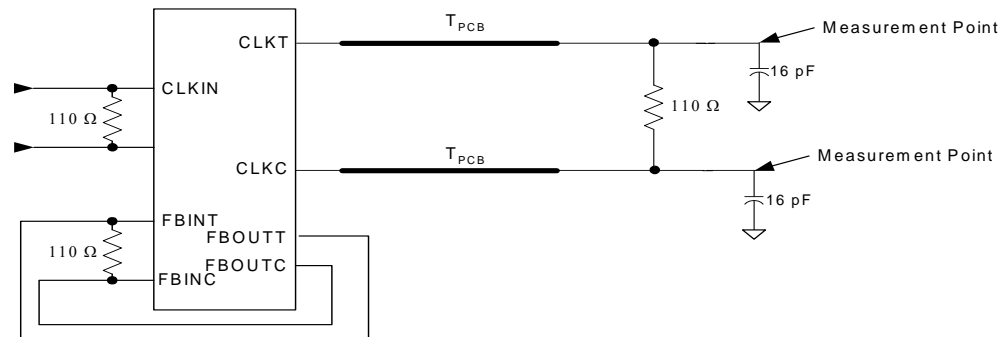

Figure 7. Differential Signal Using Direct Termination Resistor
7. For load conditions see *Figure 7*.
8. The value of  $V_{OC}$  is expected to be  $|V_{TR} + V_{CP}|/2$ . In case of each clock directly terminated by a 120 $\Omega$  resistor. See *Figure 7*.
9. All outputs switching loaded with 16 pF in 60 $\Omega$  environment. See *Figure 7*.
- 13. All differential input and output terminals are terminated with 120Ω/16 pF, as shown in *Figure 7*.